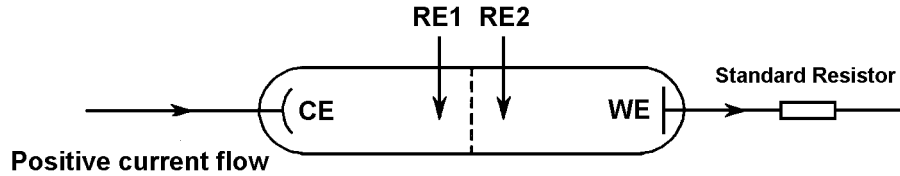

Fig 3.3 Four-terminal electrochemical cell
The value of the current flowing through an electrochemical cell is measured by sensing the voltage developed across a standard resistor connected in series with the cell, and dividing this voltage by the resistance value. (Fig 3.3) A *positive* current is said to be flowing when it passes into the counter electrode (CE) and out of the working electrode (WE).